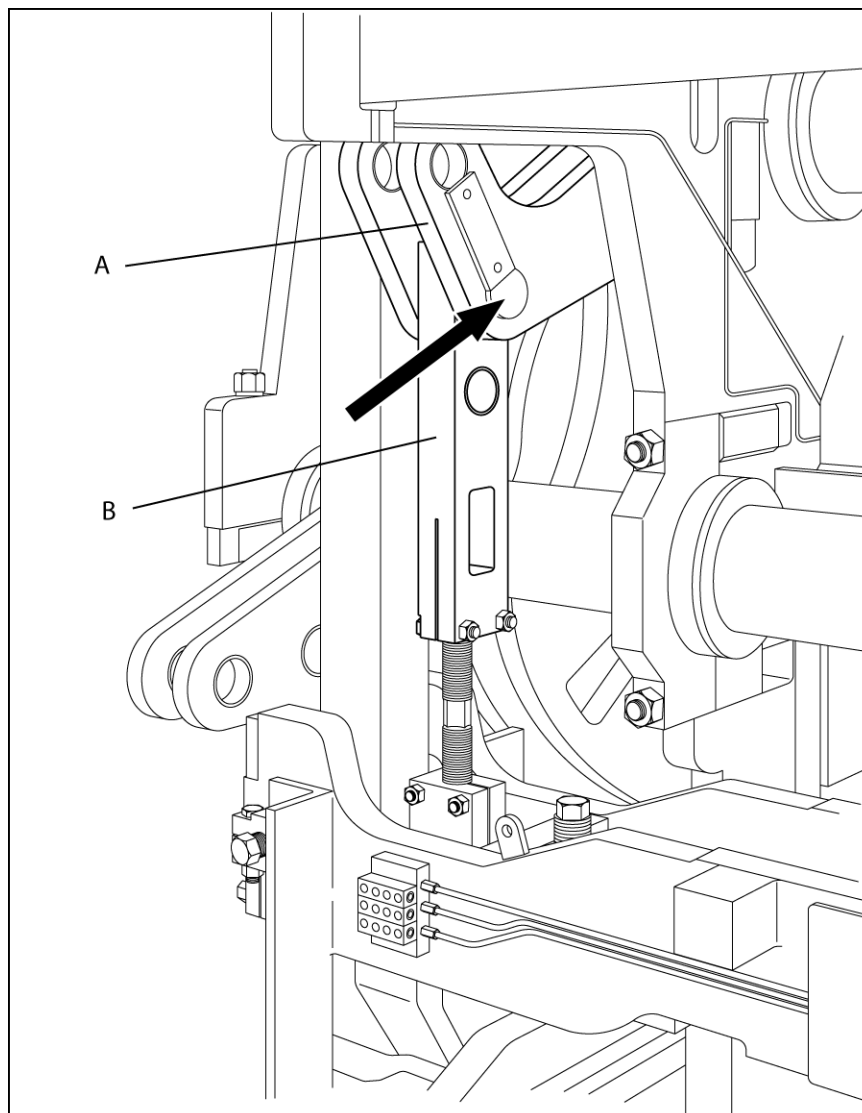

Figure 4.57 STRIPPER HEAD SHAFT AND LINKS
- b. Stripper head shaft (A) - position pins in inside holes (short stroke) (see figure 4.57).
- c. Stripper head links (B) - position pins in top holes. Adjust links to obtain approximately **105mm (4 1/8") between link ends** (see figure 4.57).